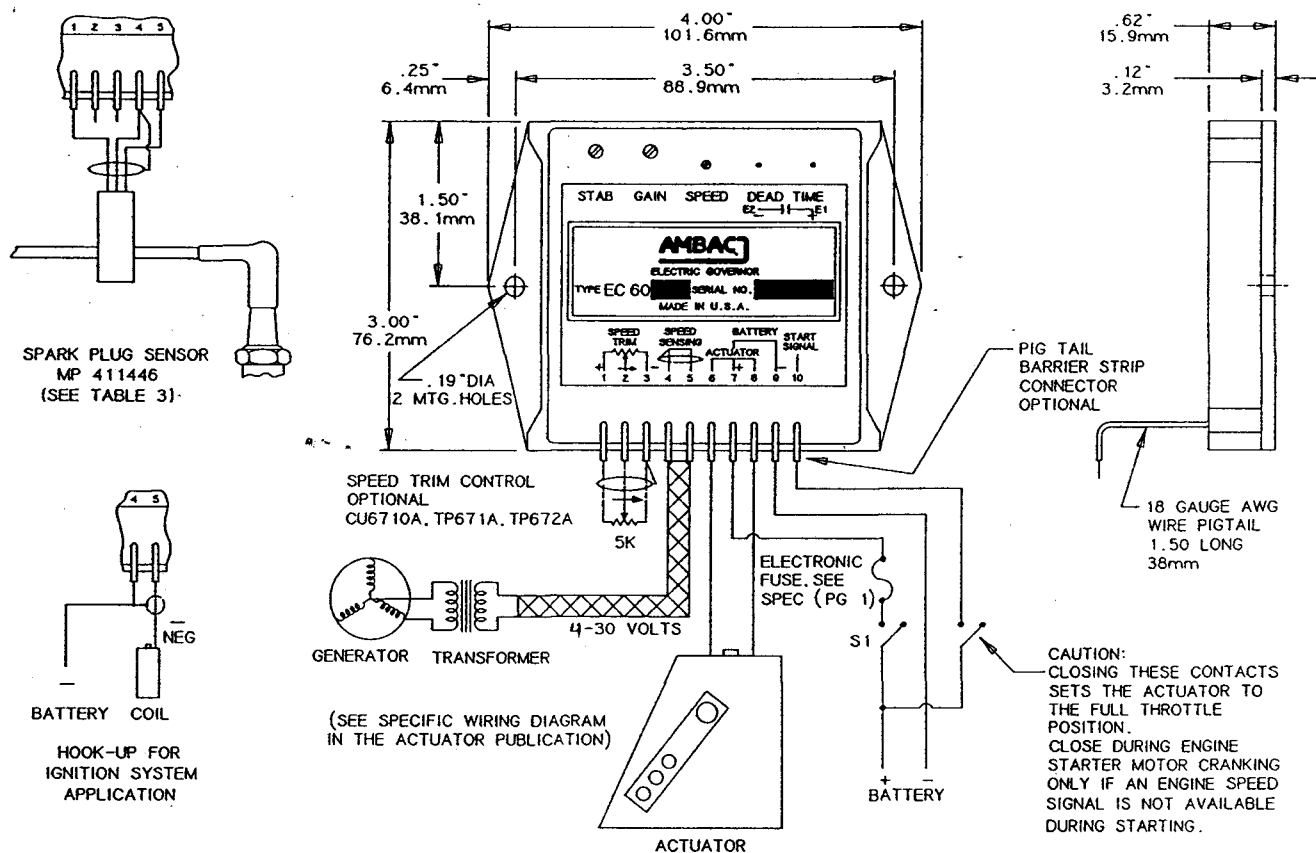

Figure 1 - EC60 Speed Controller Dimensions and Wiring Connections
- Dimensions ..... See Figure 1
For an ignition coil sensing system, terminal "5" should be connected to the coil (-) so as to provide a switched battery voltage each time a spark plug is energized or as shown on Figure 1 and Table 3, a spark plug sensor may be used to measure engine speed.
When using one phase of the generator output, a voltage transformer is required for generator voltages above 30 volts, for example, with a 220 volt line to ground generator, a 50:5 transformer should be used as shown in Figure 1.
Crank the engine. The actuator will move the fuel control to the maximum fuel position as soon as an engine speed signal above 4-volt and 2Hz is sensed or the start signal control switch is closed (see connection to terminal 10 on Figure 1). Once the 4-volt, 2Hz speed signal is sensed via terminals 4 and 5, the input to terminal 10 will be ignored. The engine will be controlled to a preset 45Hz by the speed controller after start-up.